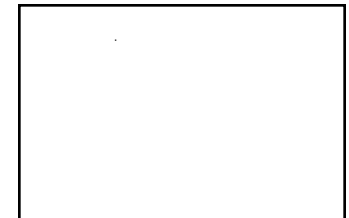

Figure 10
5. Replace foot pump's air tight plug with breather plug. (See Figure 10.)